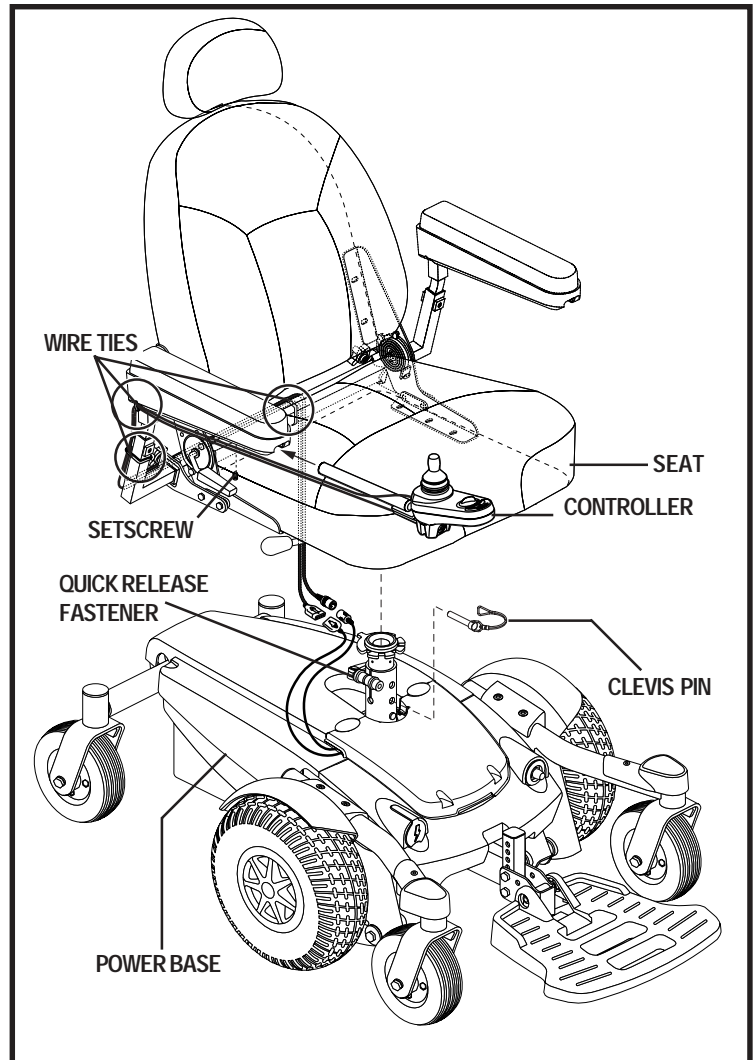

Figure 13. Seat and Controller Assembly
1. Slide the seat down onto the power base. See figure 13.
3. Install the controller into one of the armrests. Tighten the setscrew with the supplied hex key. See figure 13.
4. Lift the armrest straight up, then route the controller cable and secure with wire-ties as shown in figure 13.